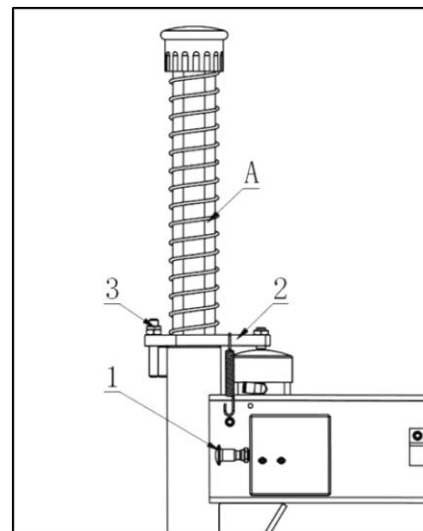

FIG14
- Use the diesel oil to clean the hexangular shaft (FIG14), Use the machine oil to lubricate.